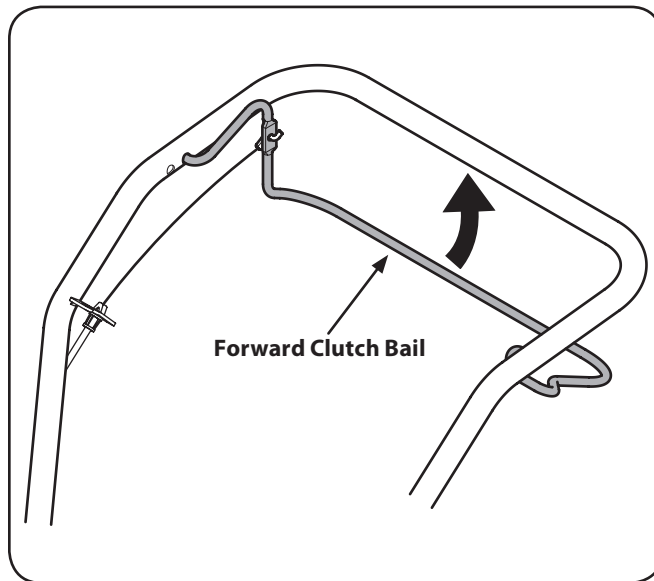

Figure 5-2
1. For forward motion of the wheels and power to the tines pull the forward clutch bail up against the handlebar. Release the bail to stop the forward motion of the wheels and tines. See Fig. 5-2.